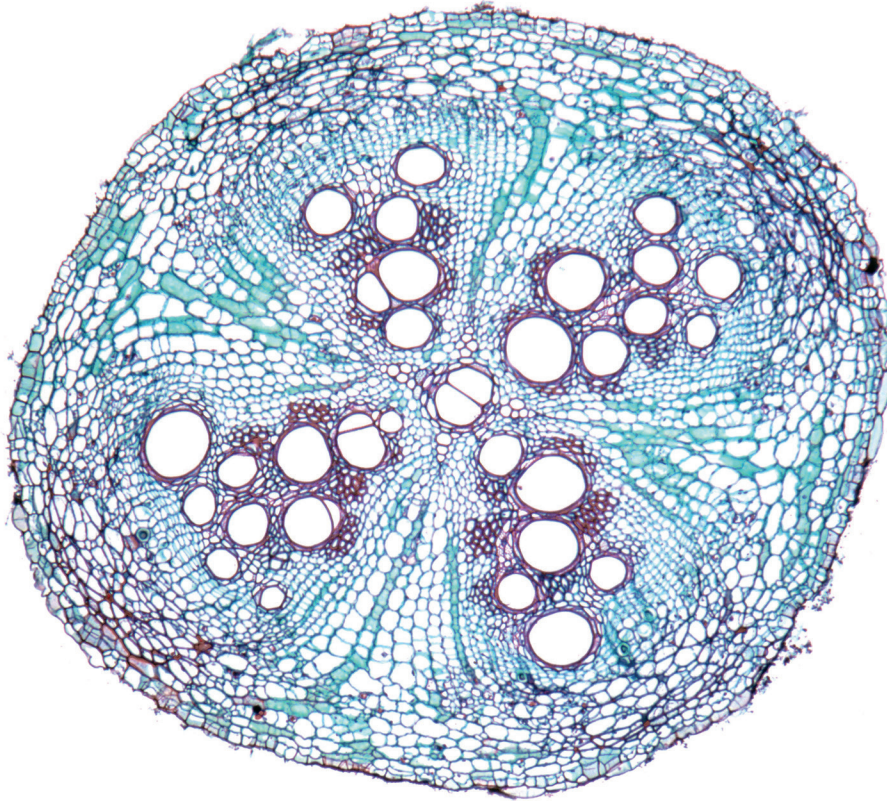
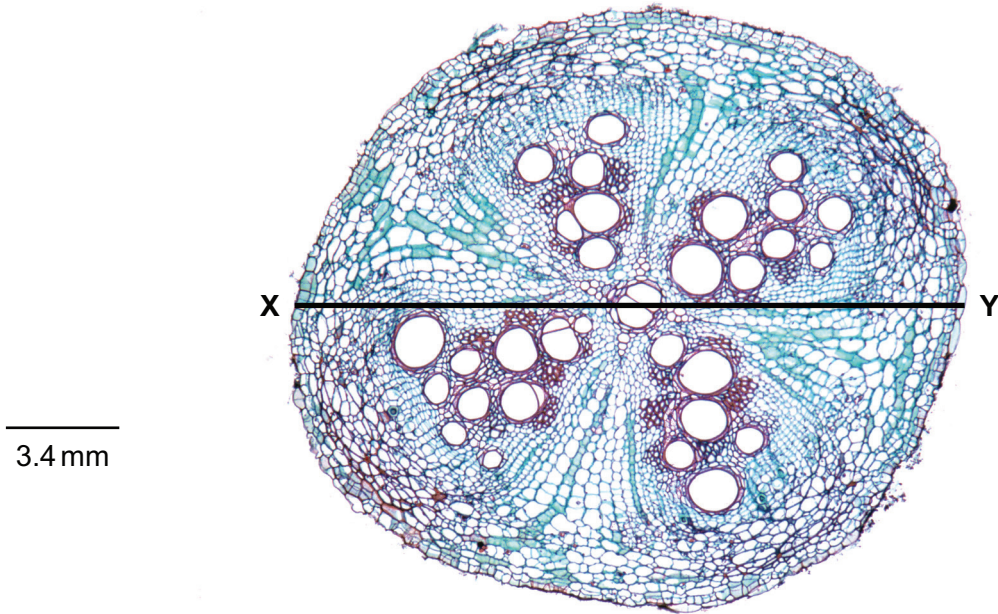

Fig. 2.1
Fig. 2.2
(b) Fig. 2.1 is a photomicrograph of a stained transverse section through a root of a different type of plant.
Identify **three** observable differences, other than size and colour, between the root section on **M1** and the root section shown in Fig. 2.1.
(c) Fig. 2.2 is the same photomicrograph as that in Fig. 2.1, with the line X–Y drawn across its width.
- (i) In Fig. 2.2 the line X–Y is drawn across the diameter of the root section.
- (ii) Calculate the area of the root section in Fig. 2.2, using the actual diameter from (c)(i) and the equation:
(iii) Suggest why the answer to (c)(ii) is an estimate of the area of the root section shown in Fig. 2.2 rather than the actual area.
(iv) Suggest how a more accurate estimate of the area of the root section shown in Fig. 2.2 could be made.